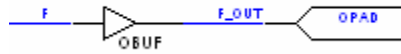

Figure 20
17. The name of a chip output is specified by the signal between the OBUF and the OPAD. Likewise the name of each input is between the IPAD and IBUF. In Figure20, F_OUT is the name of the signal that connects to the pin and the name you will find in your PAD report file.